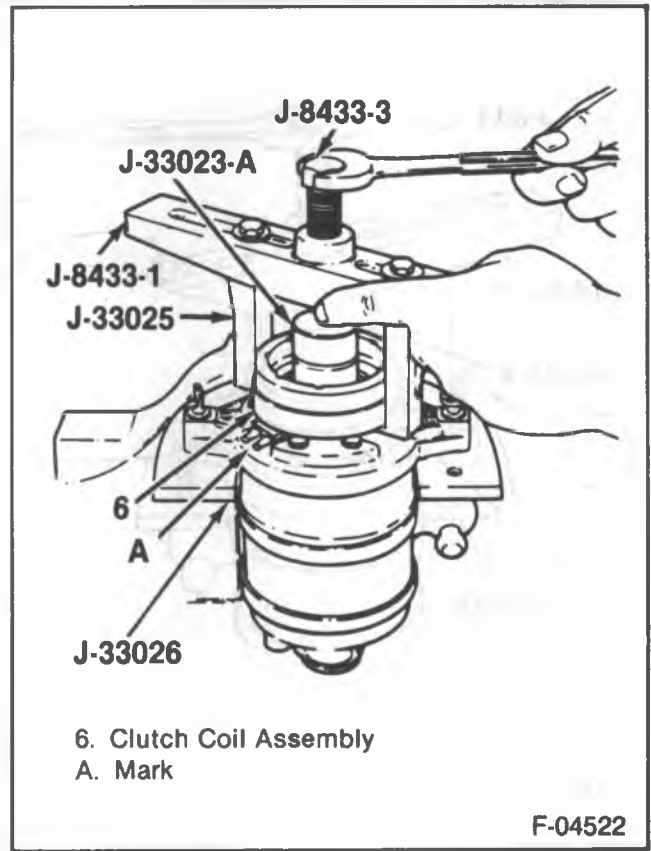

Figure 17 — Removing the Clutch Coil Assembly
1. Clutch plate and hub assembly (2).
2. Pulley (5).
- Mark or scribe the location of the clutch coil (6) to terminal on the compressor front head (11).
3. Clutch coil assembly (6).
- Install J 33023-A on the head (11) of the compressor.
- Install J 8433-1 with J-33025 (figure 17).